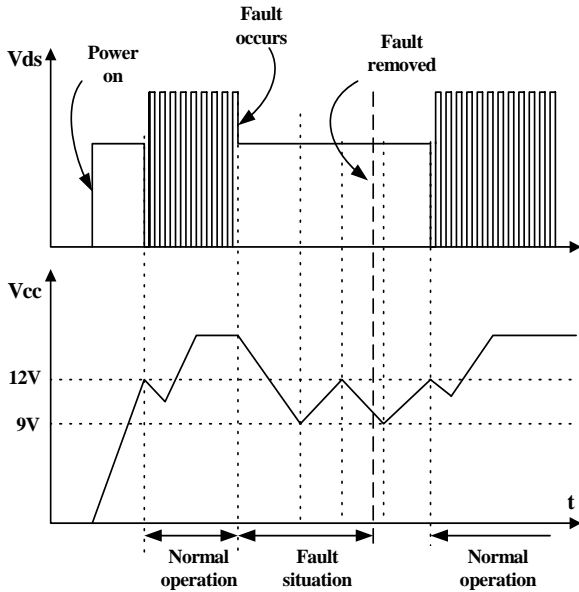

Figure 6. Auto restart operation
3. Protection Circuits : The FSES0765RG has several self protective functions such as over load protection (OLP), abnormal over current protection (AOCP), over voltage protection (OVP) and thermal shutdown (TSD). Because these protection circuits are fully integrated into the IC without requiring external components, the reliability can be improved without increasing cost. Once the fault condition occurs, switching is terminated and the Sense FET remains off. This causes Vcc to fall. When Vcc reaches the UVLO stop voltage, 9V, the protection is reset and the internal high voltage current source charges the Vcc capacitor via the Vstr pin. When Vcc reaches the UVLO start voltage, 12V, the FPS resumes its normal operation. In this manner, the auto-restart can alternately enable and disable the switching of the power Sense FET until the fault condition is eliminated (see figure 6).